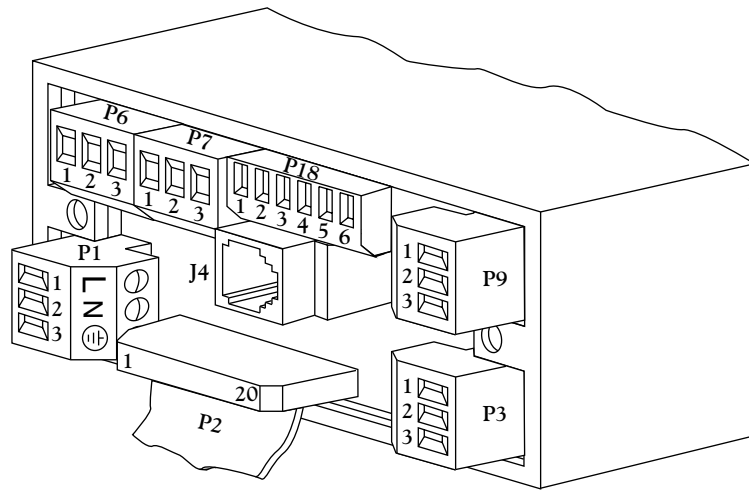
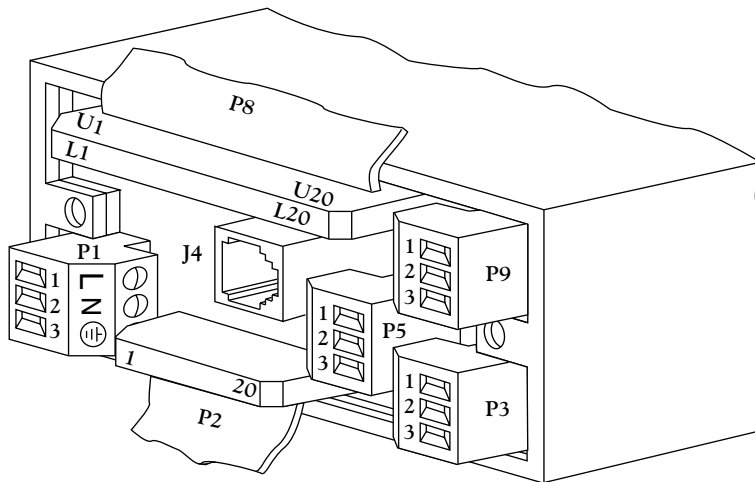
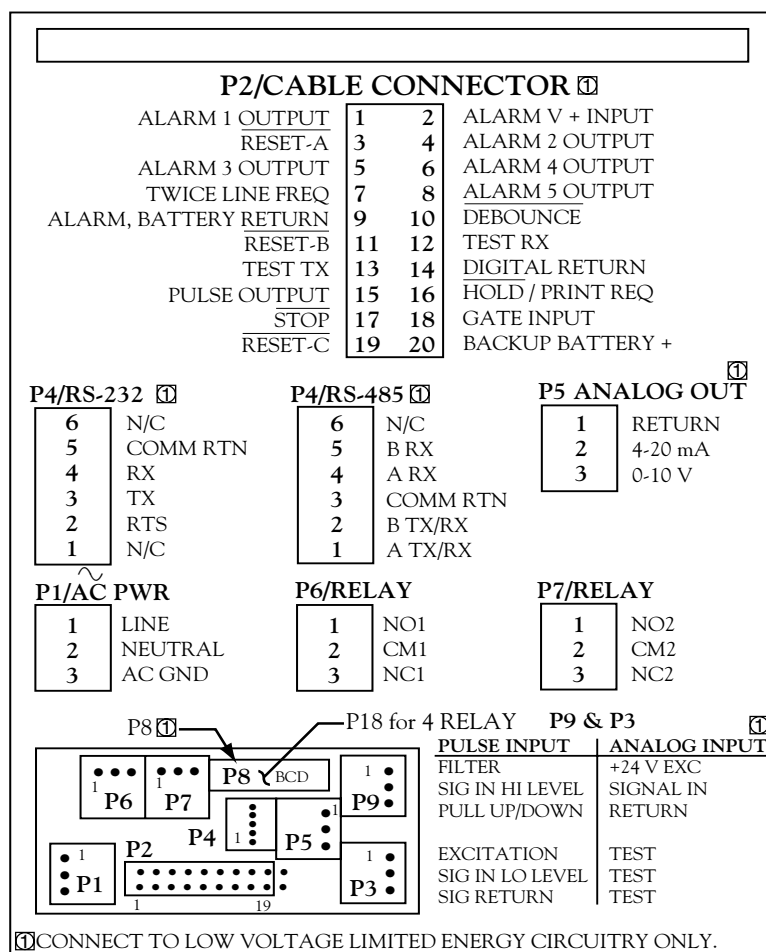

Figure 3-2. Rear View of the Meter with the 4-Relay and Serial Communications Boards
Figure 3-3. Rear View with the BCD, Serial Communications, and Analog Output Boards
Figure 3-4. Connector Label
11. Set P1, the AC power connector, aside and connect or reconnect all other connectors to the back of the meter using Figures 3-2 and 3-3 in Section 3.2 as guides.
Figure 3-2 shows the rear of the meter with the Dual Relay Board, and a serial communications board. Figure 3-3 shows it with the Isolated Parallel BCD Output Board, a serial communications board, Isolated Analog Output Board, and Analog or Pulse Input Board. Figure 3-4 shows the connector label with pin assignments.